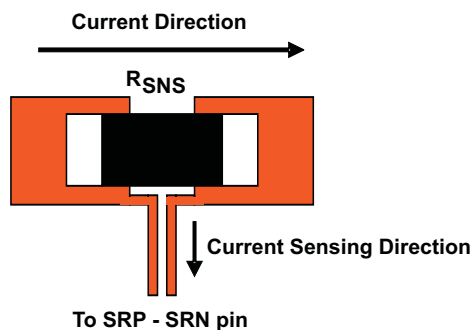

Figure 20. Sensing Resistor PCB Layout
4. The charging current sensing resistor should be placed right next to the inductor output. Route the sense leads connected across the sensing resistor back to the IC in same layer, close to each other (minimize loop area) and do not route the sense leads through a high-current path (see Figure 20 for Kelvin connection for best current accuracy). Place decoupling capacitor on these traces next to the IC.